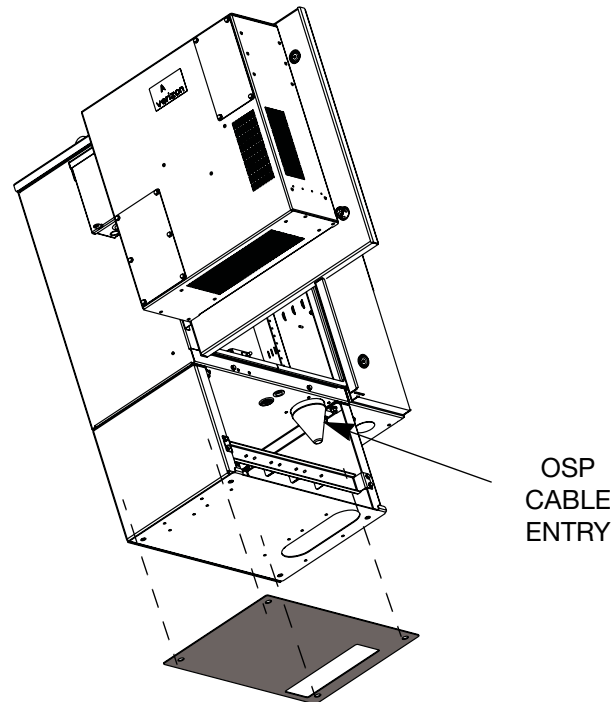

Fig. 6 : Gasket Placement
- Step 3:** A gasket is installed on the concrete pad to prevent corrosion between the concrete pad and the cabinet mounting surfaces (Fig. 6).